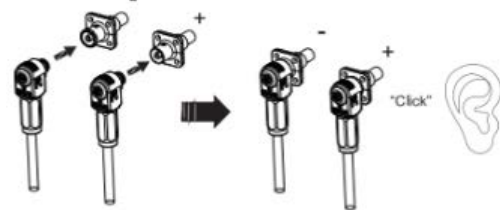

Fig. 9 – Connecting Quick Connect Cables to the Battery
- Properly align the orange power cable with the orange "+" connector on the battery, press the button on the side of the connector in and carefully connect the cables to the battery until you hear an audible "click". Repeat this for the black power cable and the black "-" connector on battery. See Fig. 9.